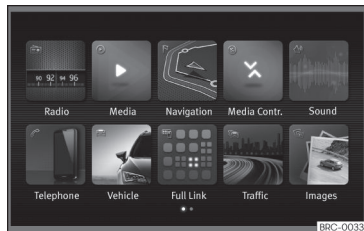

Fig. 63 Easy Connect: Main menu.
- Press the Infotainment button  and then the **Vehicle** function button >>> Fig. 63.